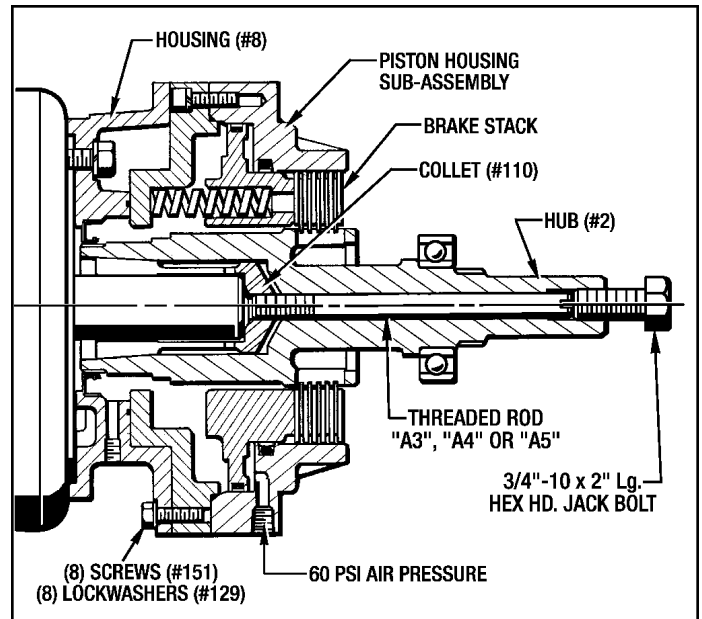

Figure 3.7 - Installing Piston Assembly & Brake Stack
12. Apply 60 PSI air pressure to the brake port as shown in *Figure 3.7*.
NOTE - The brake stack configuration shown on *Figure 3.7* is only an example. Your brake stack may be different as determined by your torque requirements.